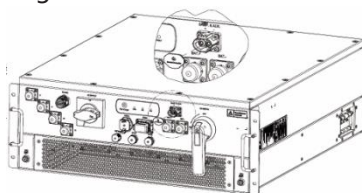

Figure 6-16: Remove the dust cover on the SAMP&AUX socket
Step 1: Take off the dust cover on the SAMP&AUX socket, as shown in Figure 6-16.